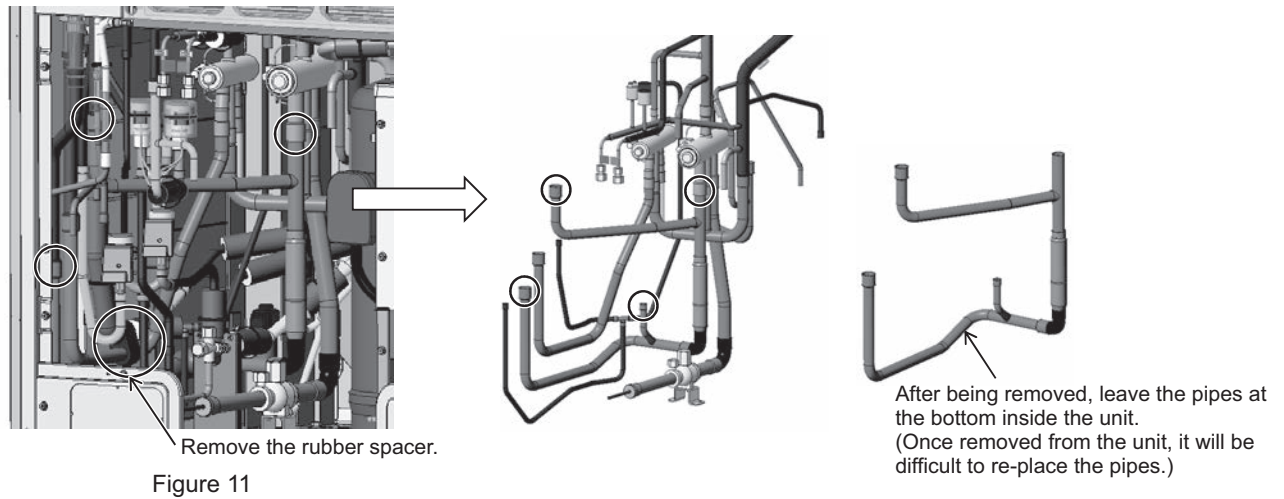

Figure 11
- (11A) Remove the pipe below four-way valve (21S4a) and on the front by removing the braze at the four areas shown in Figure 11.